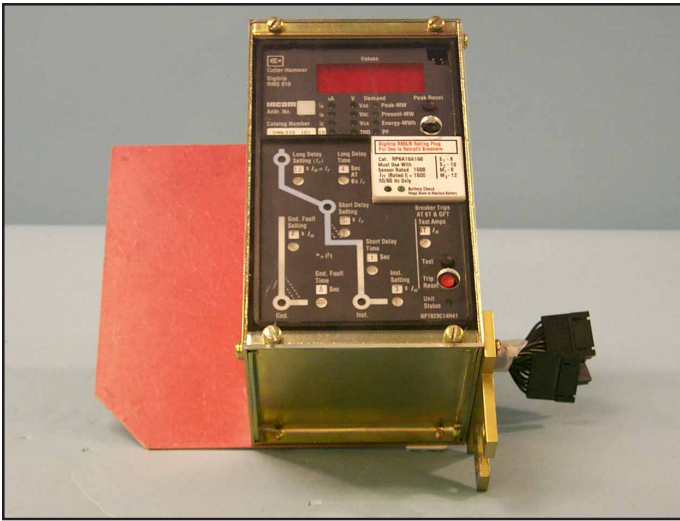

Fig. 38 Rating Plug and Trip Unit Cover Installed.
**NOTE:** If the Trip Unit must be removed from the Minibox, follow the Jacking Screw directions contained in Figure 38.